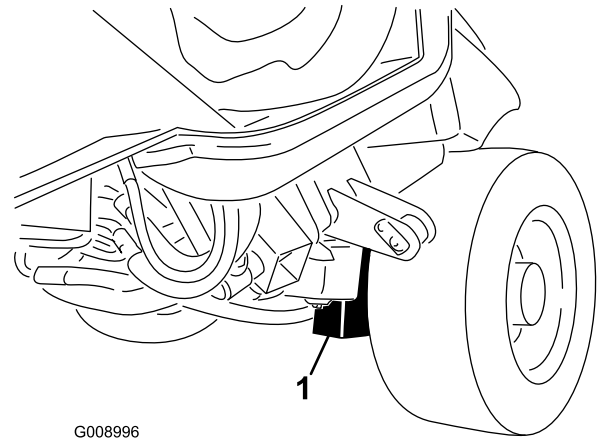

Figure 44
**Front of the machine**—on the frame, on the inside of each drive tire (Figure 44)